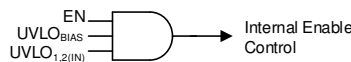

Figure 3. Simplified Turnon Control
Controlling when a single power supply turns on can be difficult in a power distribution network (PDN) because of the high power levels inherent in a PDN, and the variations between all of the supplies. As shown in Figure 3 and Table 2, the LDO turnon and turnoff time is set by the enable circuit (EN) and undervoltage lockout circuits ($UVLO_{1,2(IN)}$ and $UVLO_{BIAS}$).